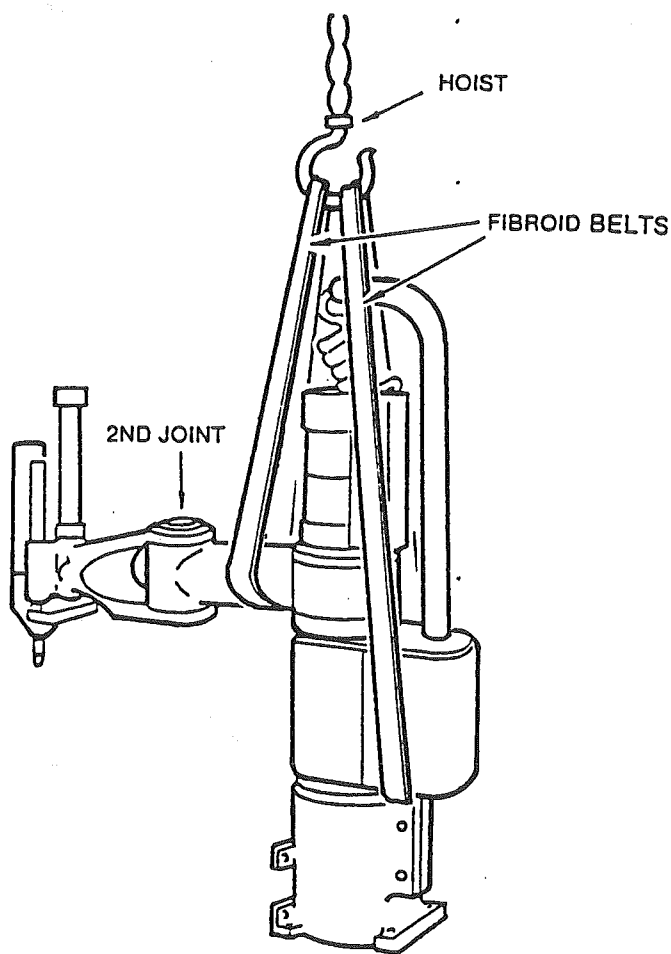

FIG. 2-3. Using a hoist
- a. As the Robot weighs approximately 32 kg ( 70 lbs), which can be handled by one adult, we recommend you to use a hoist when installing or working with it. (Refer to FIG. 2-3.)